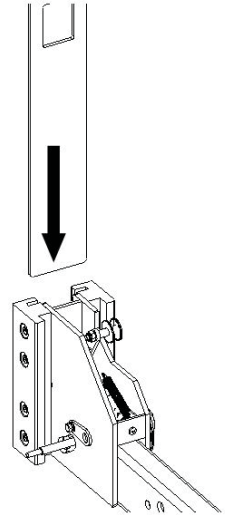

Fig. 13
7.5 Connecting Column To Transverse Beam (Ref. Fig. 13)